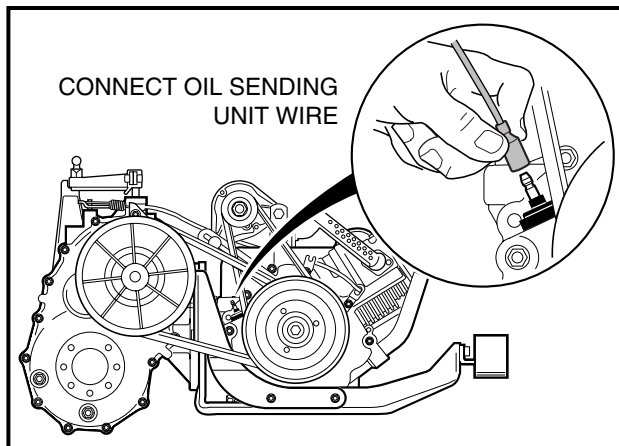

FIGURE 10-96
18. Connect the engine oil level sending unit wire (18 gauge yellow) to the sending unit located on the engine, beneath the muffler (**Figure 10-96**).